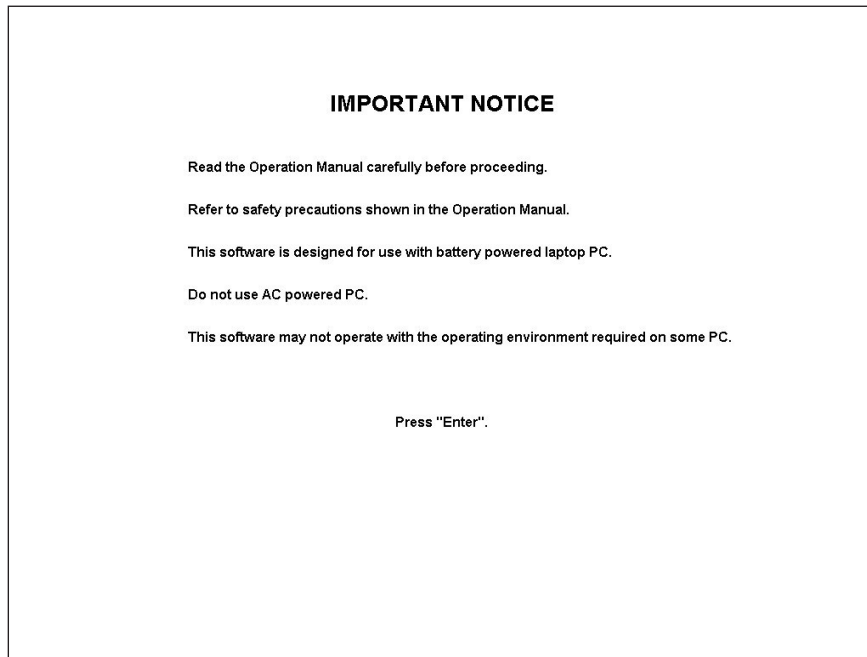

Fig.32
4. Press the “Enter” key to display the next window. (Fig.32)